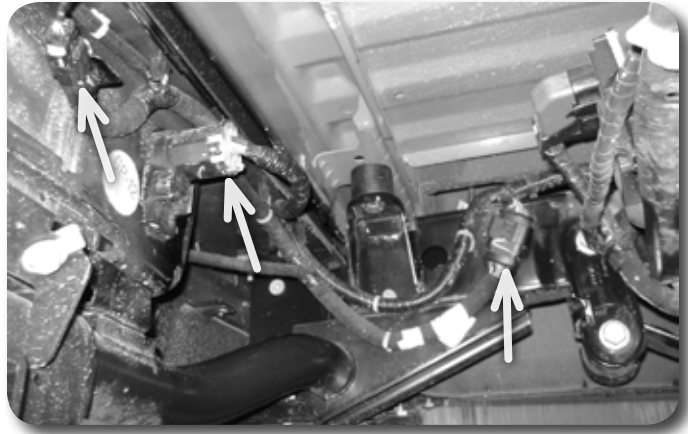

Figure 9
34. Unplug the trailer wire harness and 2 additional plugs that will prevent the bumper from being removed as shown. *See Figure 9*